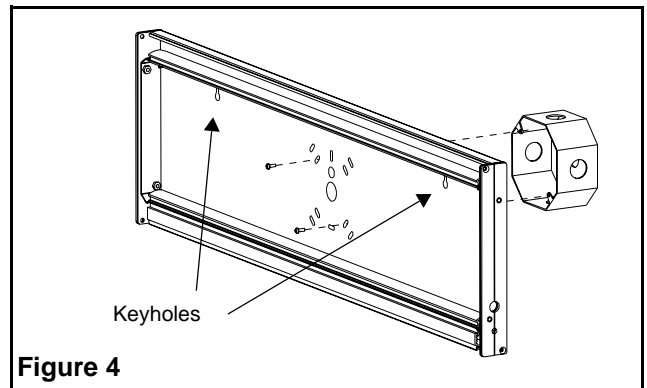

Figure 4
- c. Mount the exit sign securely to the junction box using the junction box screws (see fig. 4). For more stability, use the keyholes.